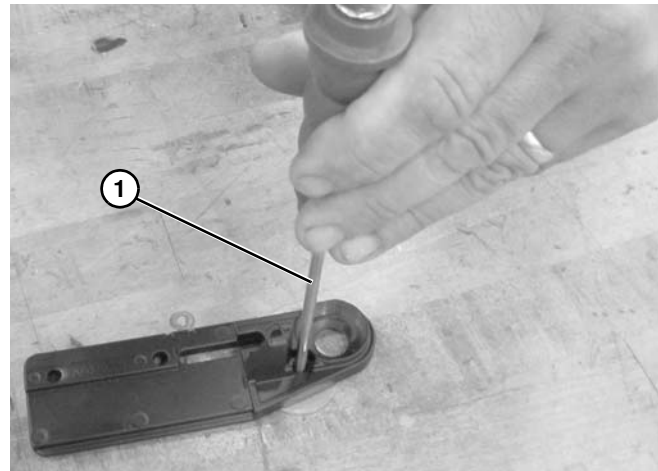
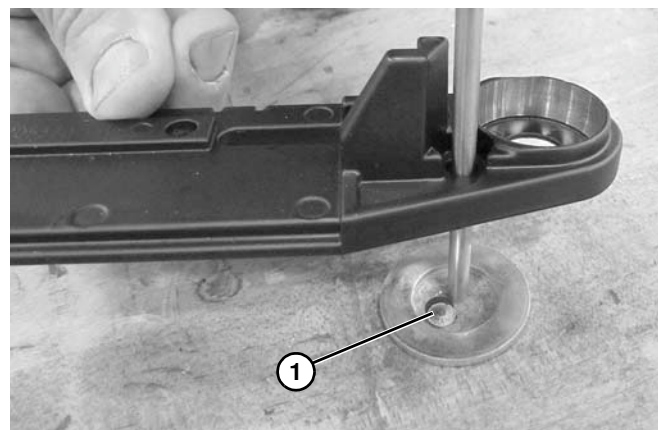

Figure 139
Figure 140
4. Repeat the same operation to knockout (**Figure 140, item 1**) for alignment screw hole using 1/8" - 3/16" punch (**Figure 139, item 1**) or M5 - M6 bolt.